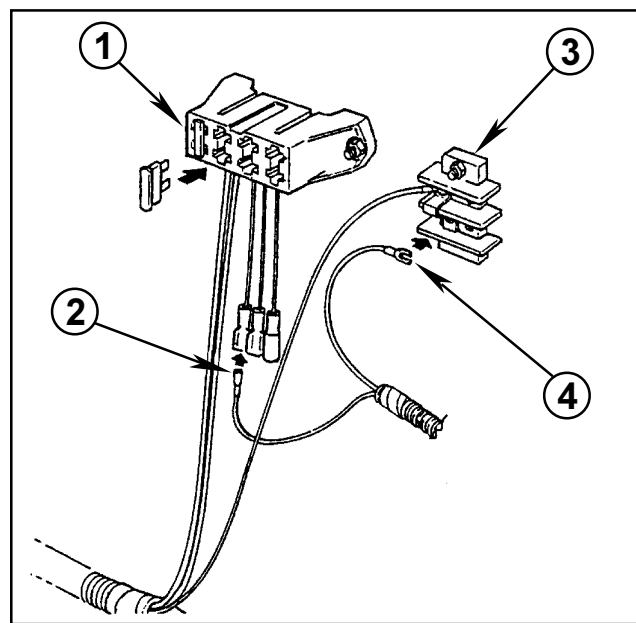

FIG. 12
2. Connect the push-on terminal on the red wire coming from the Wiring Harness to the connector on the red wire coming from the fuse block. Ground the spade terminal on the black wire to the Ground Terminal Block. See FIG. 12.